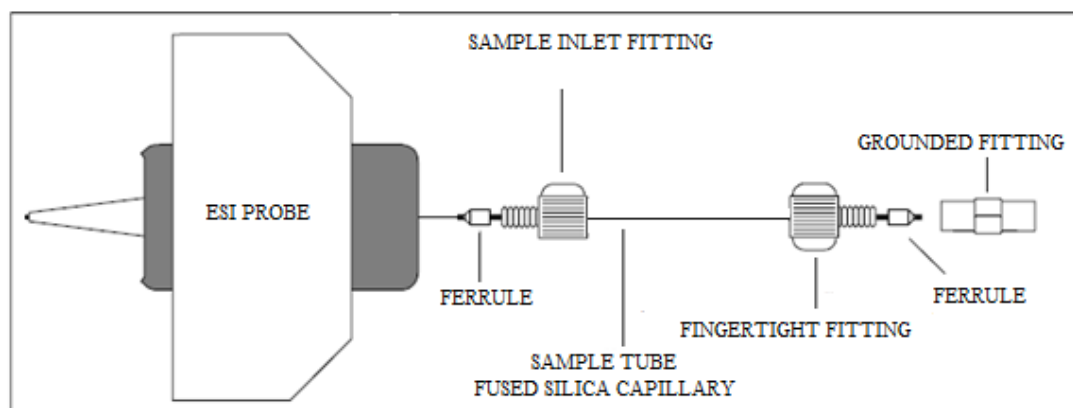

Figure 5. ESI/MS plumbing connections for the fused-silica sample tube.
8.2.1.1.2. Before installing the ESI probe to the LCQ MS detector, connect first the fused silica sample tube to the ESI probe as follows. See Figure 5.